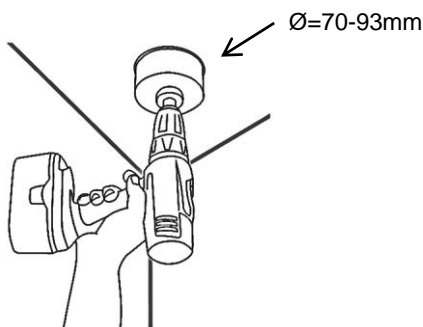

FIG 1
- Use a 70-93mm hole saw and carefully cut the hole in the plaster (FIG 1). Use appropriate personal protection equipment. Hole saws vary in the actual hole size they cut, so it is best to cut a hole in a scrap piece of plaster to check the fit.